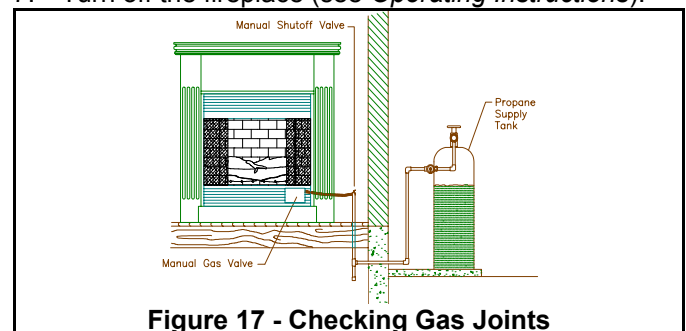

Figure 17 - Checking Gas Joints
4. Check all joints from manual shutoff valve to gas valve (see Figure 17). Apply a mixture of liquid soap and water to gas joints. Bubbles forming show a leak.